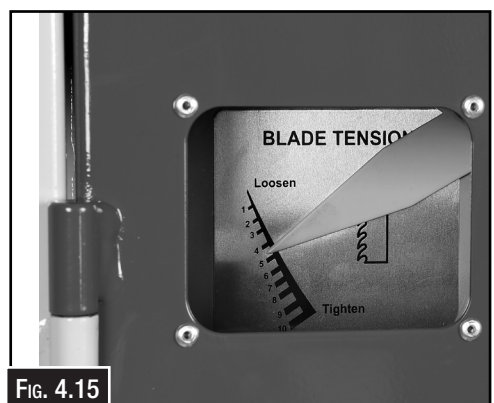

Fig. 4.15
8. Note what the tension gauge reads. Use that as a guide for tensioning that specific blade in the future. (Fig. 4.15)